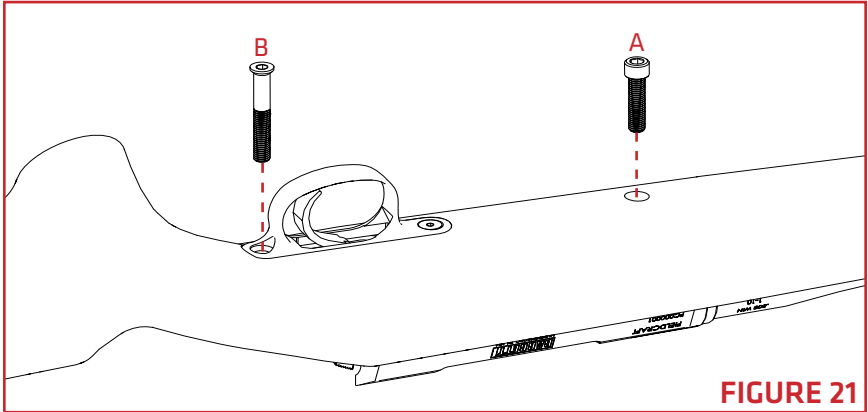

FIGURE 21
4. Install the center screw and torque to 80 in-Lb (9 N-m) (**FIGURE 21-A**).
5. Install the rear trigger guard screw and torque to 36 in-Lb (4 N-m) (**FIGURE 21-B**).